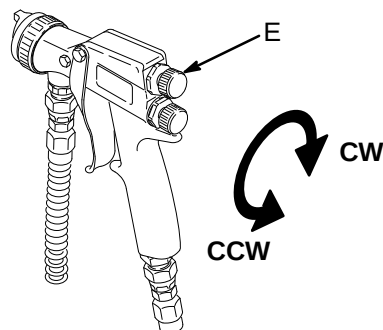

Fig. 7
3. Open the gun air shutoff valve (17a). Partially trigger the gun so only air is emitted. Set the gun air regulator (36) pressure to 70 psi (4.9 bar).
4. Open the fan pattern control valve (E) by turning it fully counterclockwise, then turn it in 1–1/2 to 2 turns. See Fig. 7.